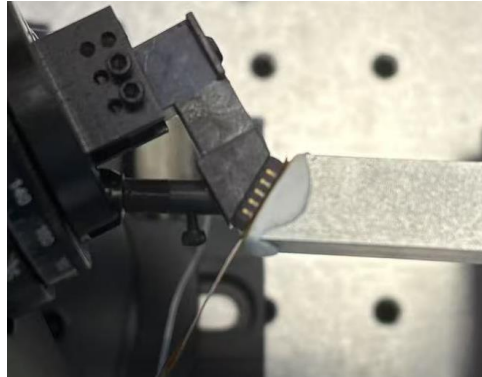

Figure 4.2 Align the main frame and MEMS mirror
Step 38. Move the rotation stage close to the MEMS mirror. Align the mounting surface of the main frame to the package of the MEMS mirror (Figure 4.2) by adjusting the 6-axis kinematic mount (#28) and rotation stage (#29). Lock the dovetail locking screw of the rotation stage.